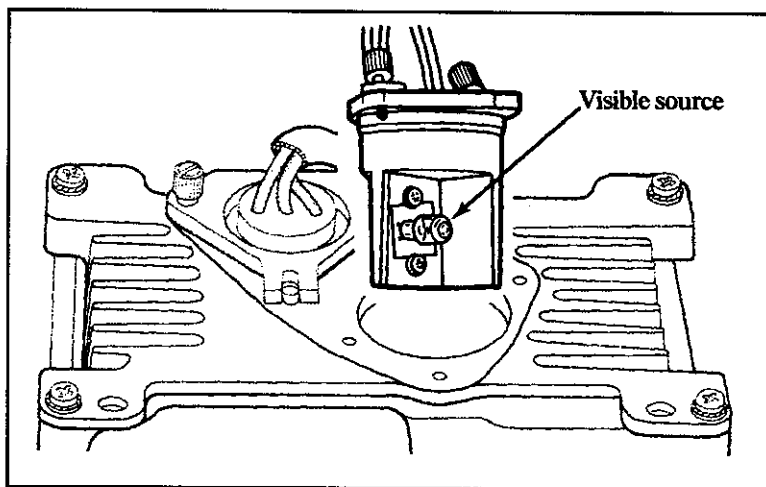

Figure 12-9.
4. Remove the source mounting bracket by lifting straight up. Rotate the source mounting bracket so that the visible source is accessible. See Figure 12-9.